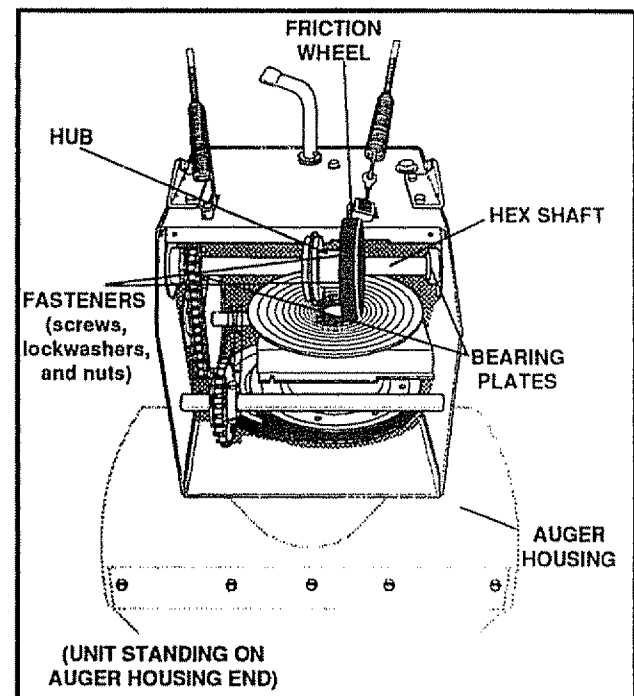

FIG. 33
- Stand the snow thrower up on the auger housing end (See Fig. 33).
- Remove right side bearing plate. Leave Hex shaft in original position (See Fig. 33)
- Remove friction wheel from hub. Slip friction wheel off hex shaft towards right side (See Fig. 33).